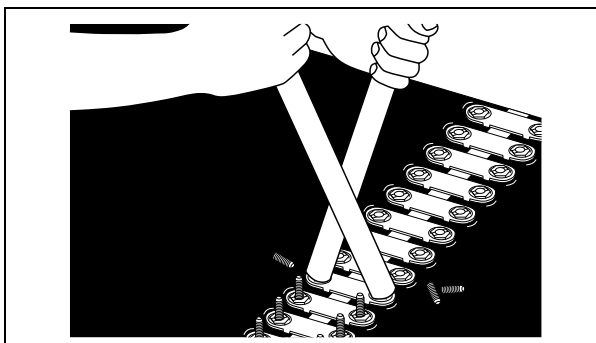

Figure 4O
12. Break off excess bolt ends using the two (2) bolt breakers. On belts thicker than 9.6 mm rubber covers, retighten all nuts after a few hours of running. Grind sharp edges of broken bolt ends until they are smooth and do not protrude. *(See Figure 4O.)*